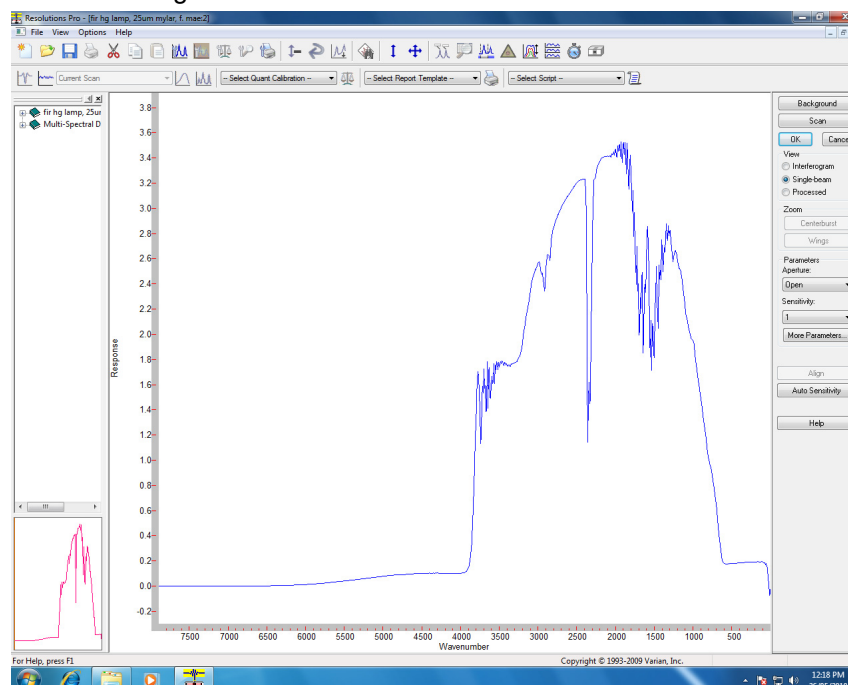
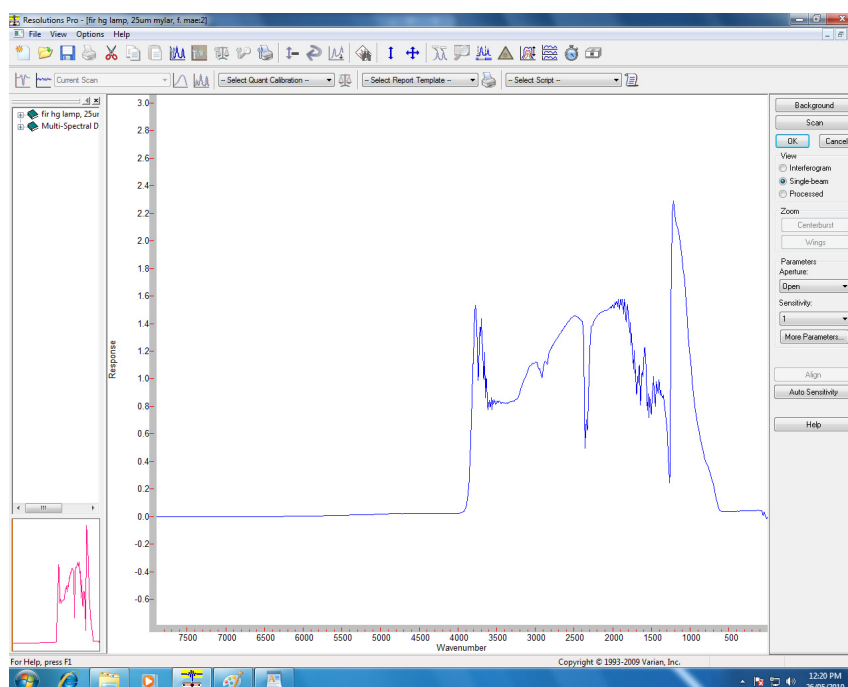

Figure 6. Single beam spectrum of the coated side of the test slide
Figure 7. Spectrum of the glass slide
6. Select **Single Beam** while in Signal Monitor and check that the slide is positioned correctly. Figure 6 shows a spectrum of the coated side and Figure 7 shows a spectrum of the glass side.